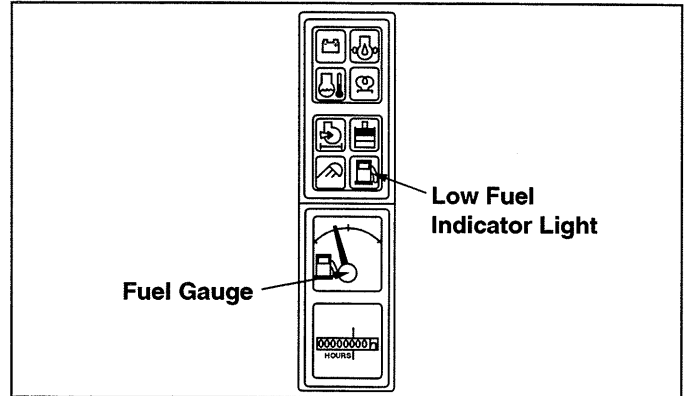

Figure 4-4. Fuel Gauge and Low Fuel Indicator
The fuel level in the tank is indicated by the fuel gauge on the console (Figure 4-4).
*NOTE: When the fuel level reaches 2.5 gal. (9.4 L) the low fuel indicator light (Figure 4-4) will come on to alert the operator.*